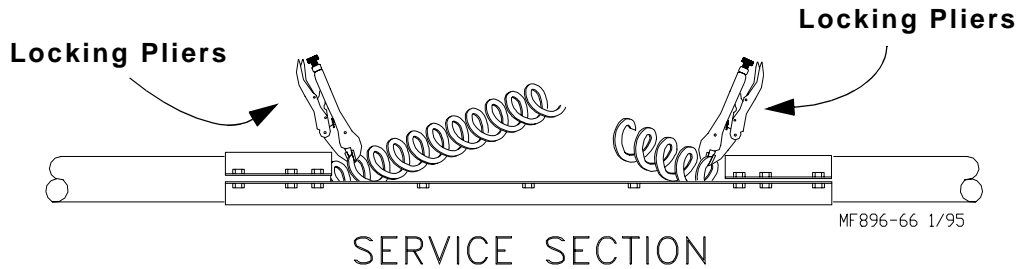

Figure 36. (Side View)
6. Use locking pliers to hold one end of auger in place while stretching the auger. See **Figure 36**.